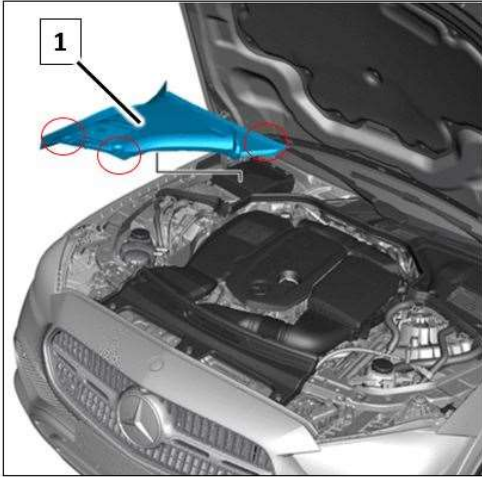

Figure 1
2. Remove cover (Figure 1, 1).